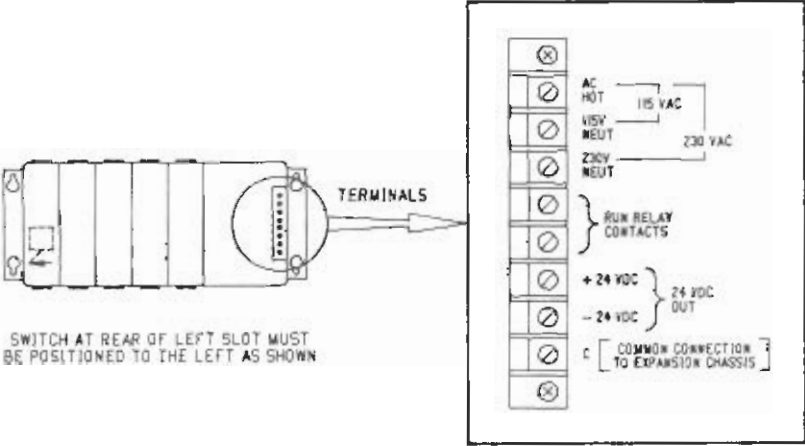

Figure 3.5 EXPANSION RACK TERMINAL STRIP LOCATION
11. Connect the opposite end of the cable to the top connector on the I/O expansion module. The I/O expansion module must be installed in slot 1 in the expansion rack. Connect the shield to the C terminal on the power supply terminal block located on the right side of the expansion rack (see Figure 3.5).